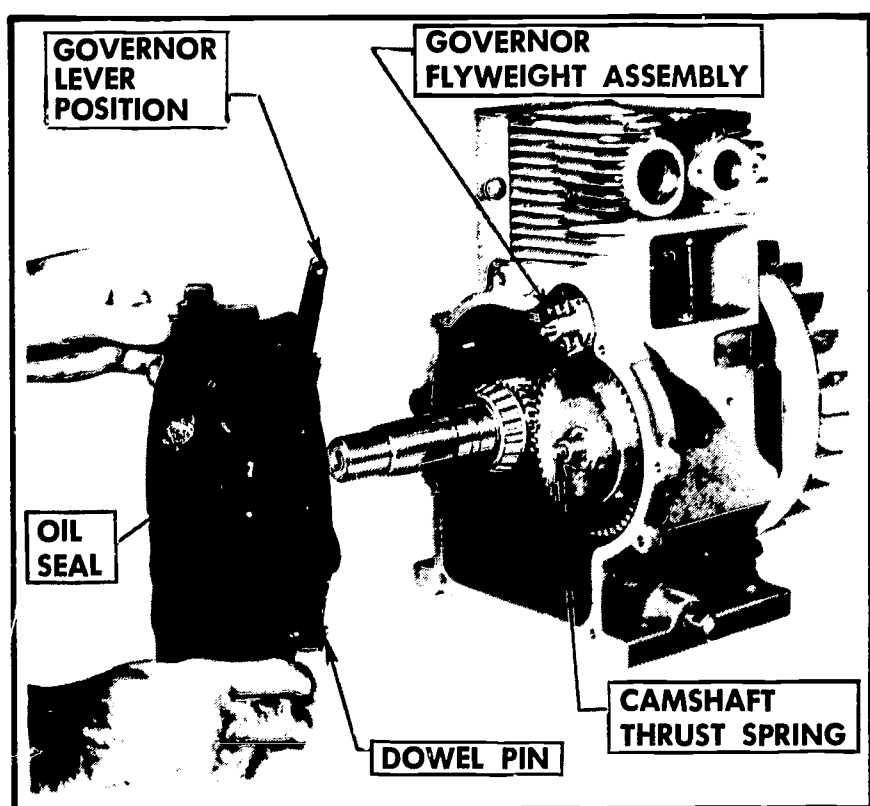

FIGURE 244. Removing the bearing plate.
- (4) Remove base plate, or bearing plate (Figure 244).